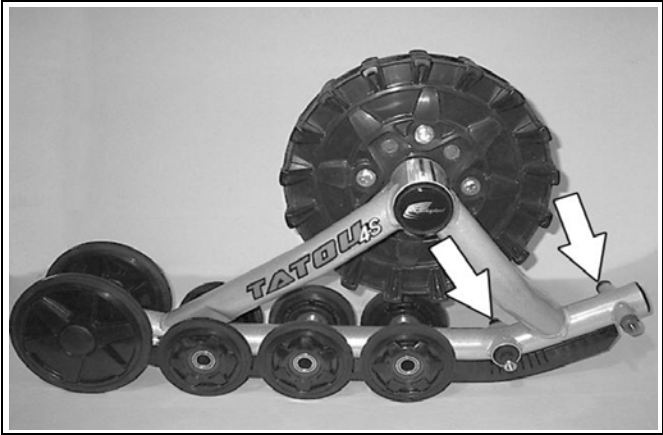

Figure 21
- Remove the two 201-mm wheels opposite to the track tensioner side (refer to Figure 21).